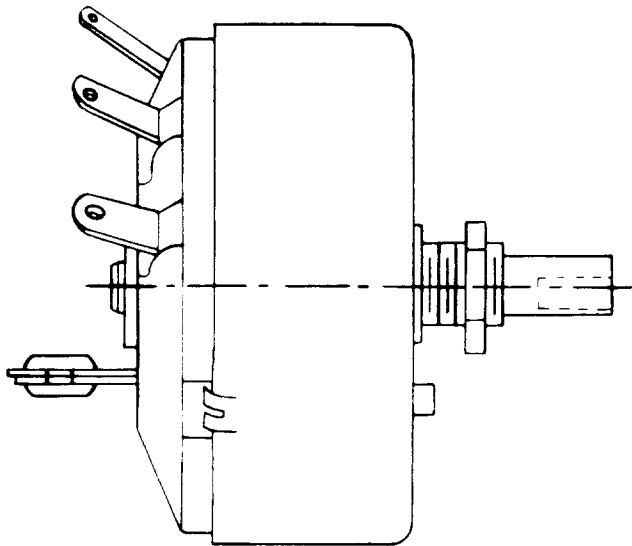

Fig. 1—KS-15564 and KS-15718 Switches—Similar to Open-Type KS-5614
1.01 This section covers manually operated rotary switches KS-5614, KS-5625, KS-5716, KS-5761, KS-5768, KS-15119, KS-15564, KS-15595, KS-15656, KS-15709, KS-15718, KS-15725, KS-15730, KS-15751, KS-15752, KS-15753, KS-15791, KS-15793, KS-15810, KS-15819, KS-15832, KS-15845, KS-15846, KS-15888, KS-15889, KS-15895, KS-15958, KS-19677, KS-20010, KS-20020, and KS-20220. Typical switches are shown in Fig. 1 through 9.